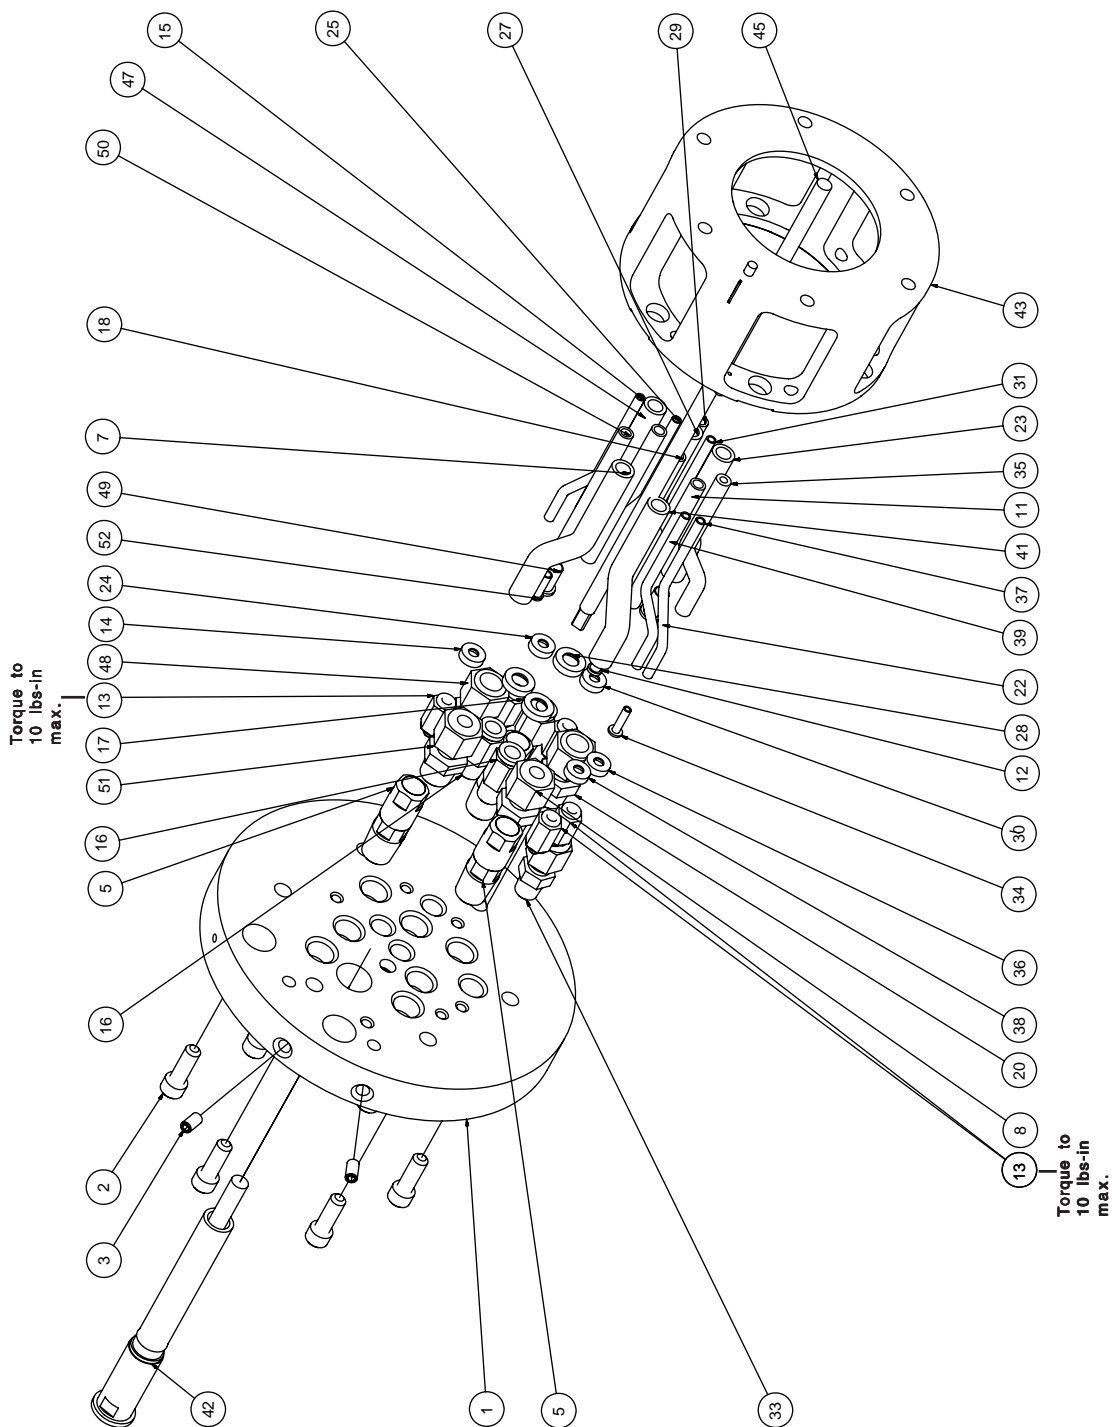

Figure 27: 79106-XXXXXXX Tubing Bundle Assembly (English)
**79106-XXXXXX TUBING BUNDLE ASSEMBLY (ENGLISH) - PARTS LIST (Figure 27)**
**PARTS LIST BULLET DEFINITION TABLE - (Figure 27)**